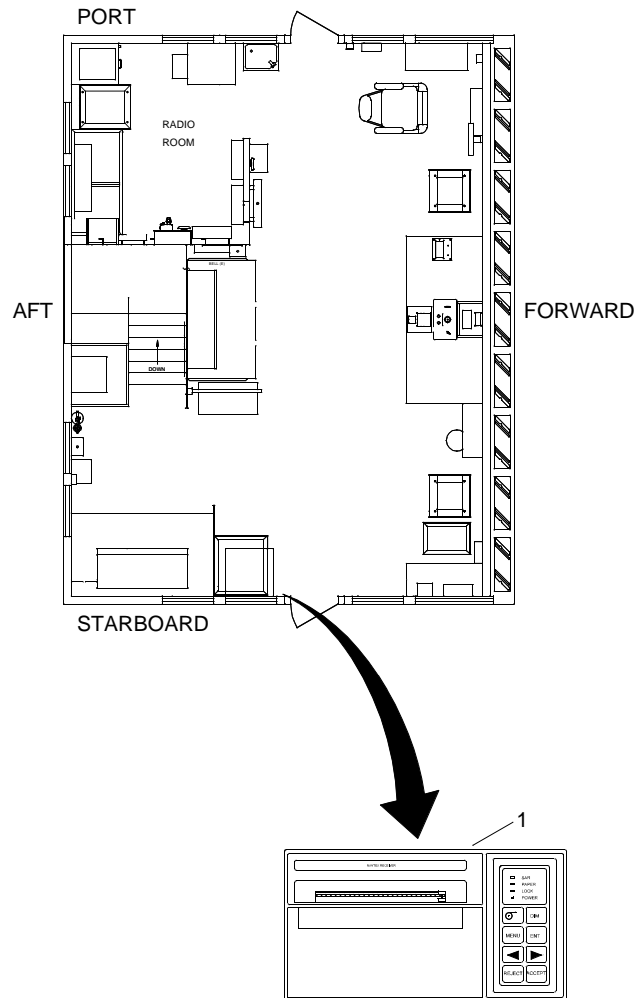

Figure 8. NAVTEX Receiver Location
The NAVTEX receiver (figure 8, item 1) is located on the starboard side of the pilothouse. The NAVTEX receiver is a narrow band radio teletype system for sending, by frequency shift keying, text messages expressed in a seven unit code. The NAVTEX transmitter transmits a nine control character header code ahead of the main message so that the receiver can identify the station, message type and serial number automatically. For automatic identification of messages, each message starts with nine control characters, called a header code. The first five characters are always ZCZC_. The latter four characters of the header code indicate origin, category and serial number of the message. The NAVTEX receiver selectively acquires stations and types of messages specified by the operator. Message types A (navigational warnings), B (meteorological warnings) and C (ice reports) cannot be switched off by the operator. Message type D (Search and Rescue (SAR) information) will be printed immediately, the NAVTEX alarm buzzer will sound and the SAR warning Light Emitting Diode (LED) will light. When an abnormal character is received due to noise interference it will be printed as an asterisk. A message having serial number "00" (emergency message) will be reprinted. Message types A, B, D and L, or serial number "00" from rejected stations will be printed. Message type D will be printed up to 2,000 characters regardless of character error rate. The NAVTEX receiver may be preset to stop printing when the error rate is above thirty-three percent.